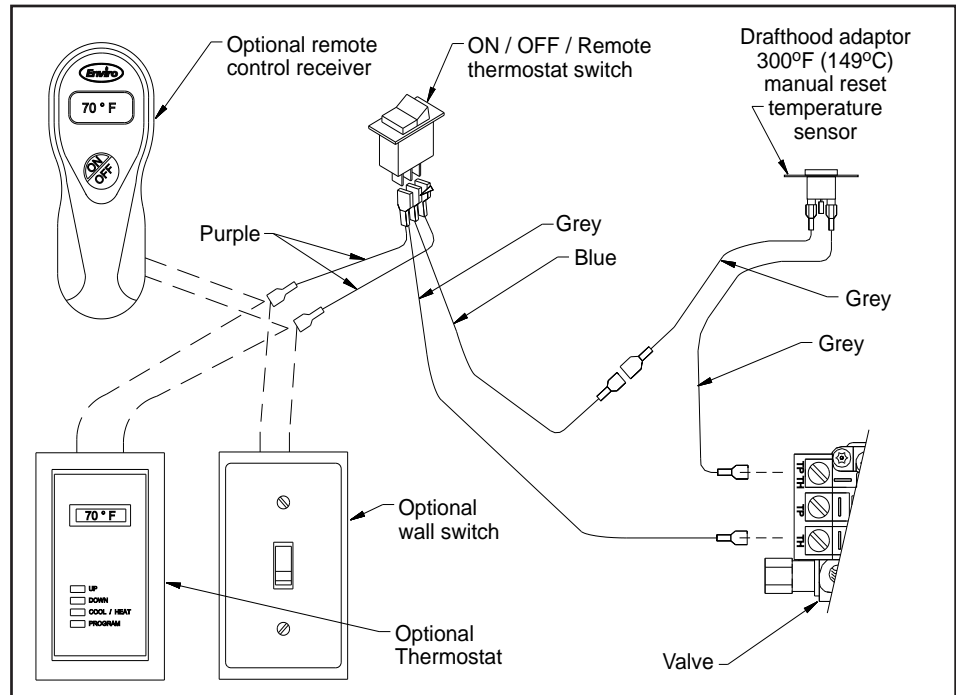

Figure 32: Wiring Diagram for Electrical Connection.
3. Being careful not to run any wiring tight across metal edges; connect them to the valve and "ON/OFF" switch (refer to Figure 32).
**WIRING DIAGRAM:** When installing the Drafhhood Adaptor onto a fireplace fitted with an optional wall switch or an optional thermostat, remove one wire from the switch to the gas valve and connect the Drafhhood Adaptor harness as shown in Figure 32.
2. Disconnect the spill switch wires from the valve and on/off/remote rocker switch wire (see Figure 32).